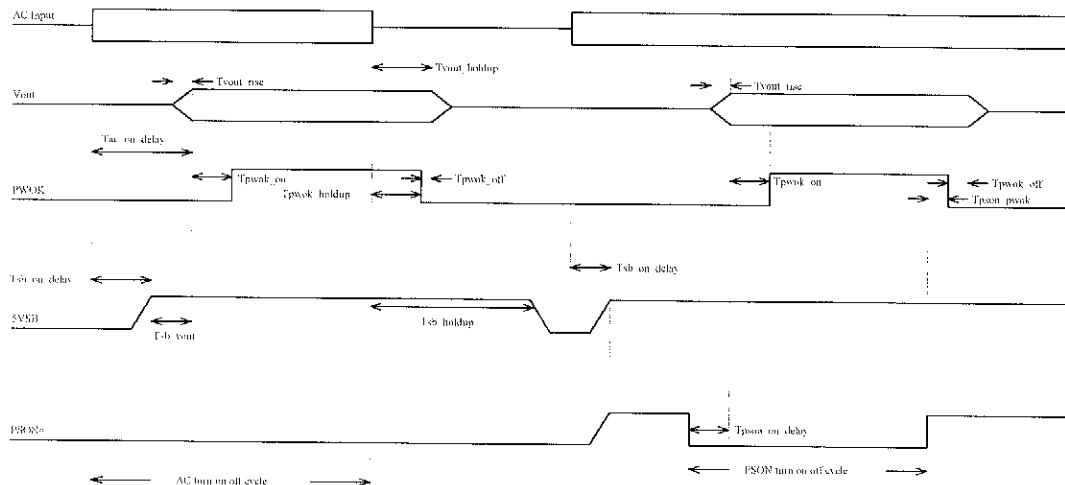

Fig.1
5.1 Power on (sec fig.1)
5.3 Power off sequence (sec fig. 1)
6.1 Power good signal (see fig. 1)